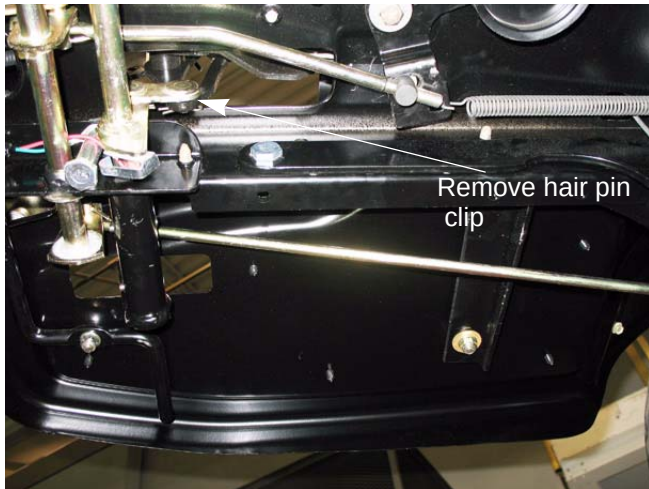

Figure 6.20
3. At the bottom of the lever with the cam slot there is a connector link. Remove the hairpin clip and push it out of the lever. See Figure 6.20.